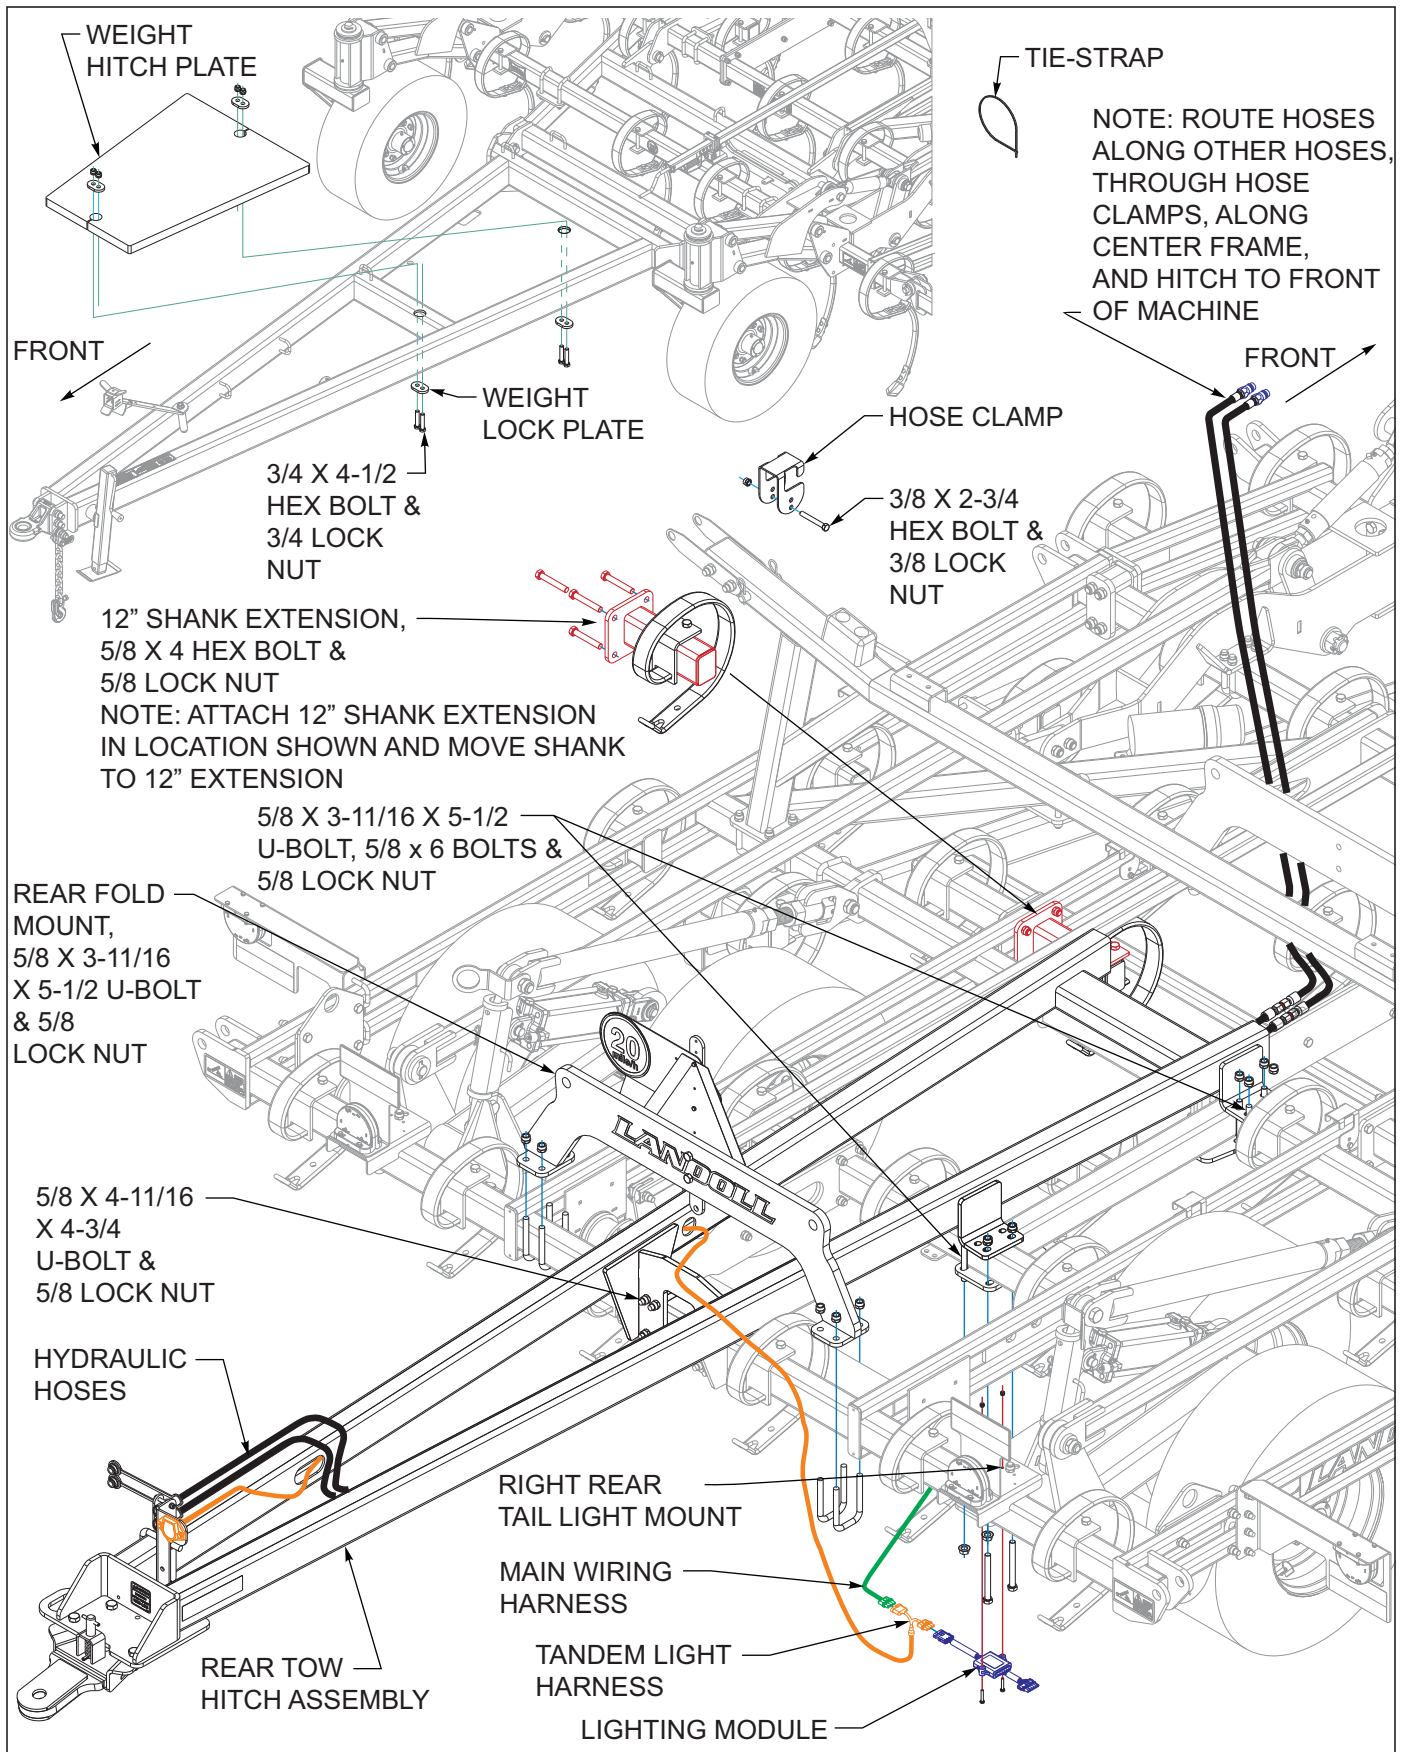
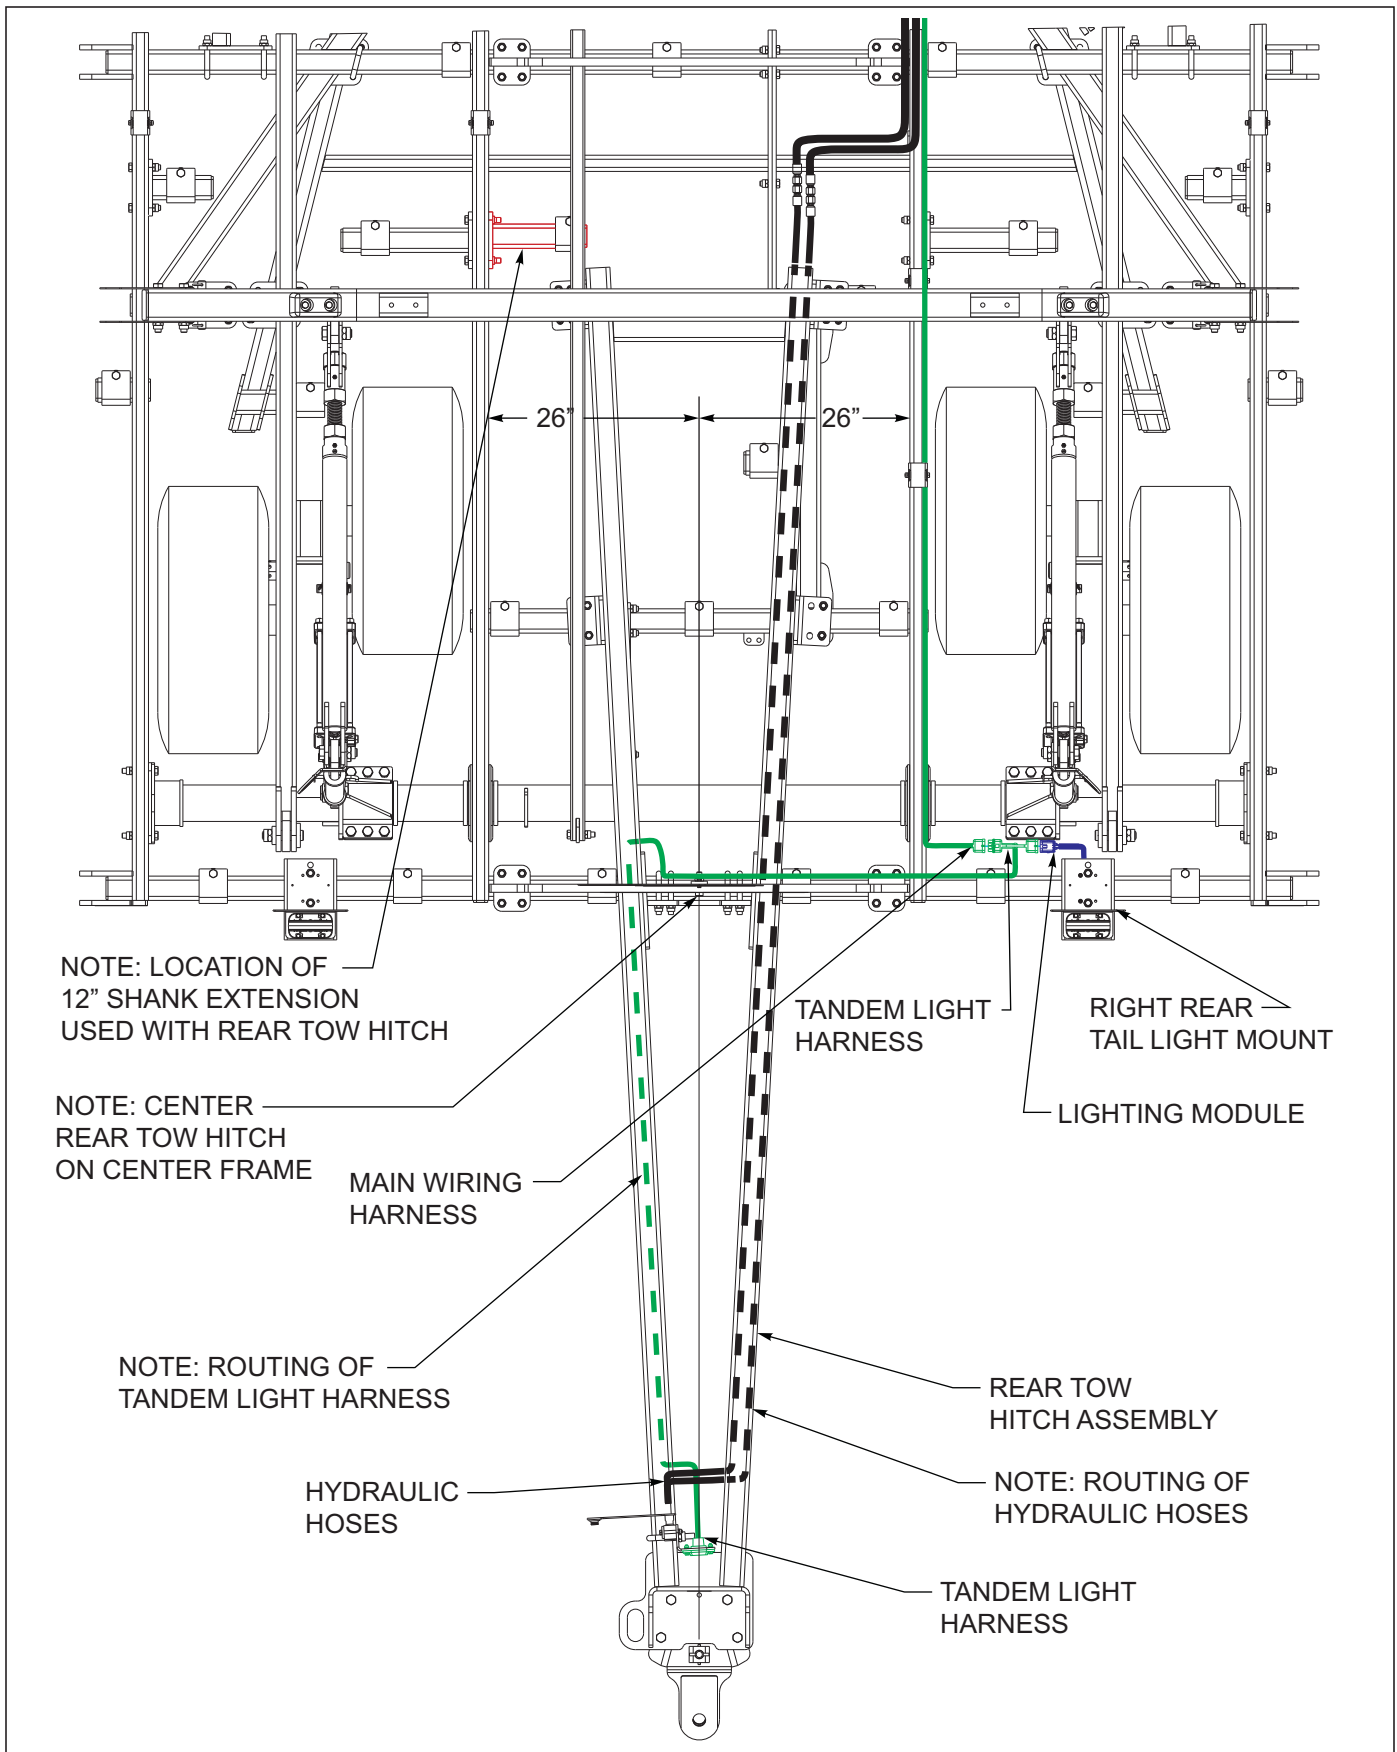

Figure 3-33: Rear Tow Hitch Installation
Figure 3-34: Rear Tow Hitch Layout
2. Install the weight hitch plate on top of the hitch and secure with weight lock plates, 3/4 x 4-1/2 hex bolts and 3/4 lock nuts **See Figures 3-33**.
9. Center the rear tow hitch assembly on center frame **See Figures 3-34**, tighten all u-bolts to secure hitch.
11. Route the tandem light harness connector across the rear frame bar to the right rear tail light. Unplug the existing four-pin main wiring harness from the lighting module. Connect the rear tow hitch harness between the lighting module and the main wiring harness **See Figures 3-33** and **See Figures 3-34** for proper hose and light harness routing.